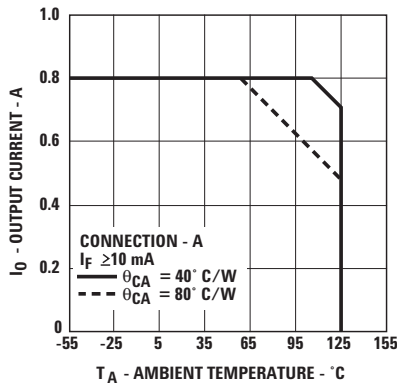
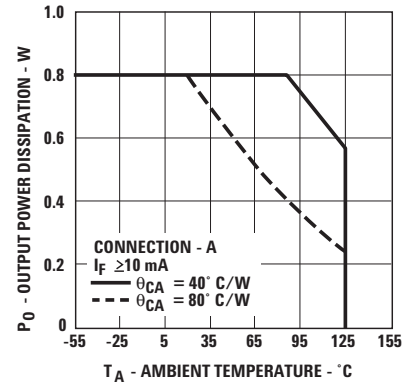

Figure 2. Maximum Average Output Current Rating vs. Ambient Temperature.
Figure 4. Output Power Rating vs. Ambient Temperature.
| Average Output Current - Figure 2Connection AConnection B                                                 | $I_O$                   |          | 0.81.6    | AA |      |
| Average Output Power Dissipation - Figure 4                                                                       |                         |          | 800           | mW     | 2    |
- For rating, see Figure 4. The output power  $P_O$  rating curve is obtained when the part is handling the maximum average output current  $I_O$  as shown in Figure 2.
IN ORDER TO DETERMINE  $V_{OUT}$  CORRECTLY, THE CASE TO AMBIENT THERMAL IMPEDANCE MUST BE MEASURED FOR THE BURN-IN BOARDS TO BE USED. THEN, KNOWING  $\theta_{CA}$ , DETERMINE THE CORRECT OUTPUT CURRENT PER FIGURES 2 AND 4 TO INSURE THAT THE DEVICE MEETS THE DERATING REQUIREMENTS AS SHOWN.
The output on-resistance,  $R_{ON}$ , specified in this data sheet, is the resistance measured across the output contact when a pulsed current signal ( $I_O = 800\text{ mA}$ ) is applied to the output pins. The use of a pulsed signal ( $\leq 30\text{ ms}$ ) implies that each junction temperature is equal to the ambient and case temperatures. The steady-state resistance,  $R_{SS}$ , on the other hand, is the value of the resistance measured across the output contact when a DC current signal is applied to the output pins for a duration sufficient to reach thermal equilibrium.  $R_{SS}$  includes the effects of the temperature rise of each element in the thermal model. Rating curves are shown in Figures 2 and 4. Figure 2 specifies the maximum average output current allowable for a given ambient temperature. Figure 4 specifies the output power dissipation allowable for a given ambient temperature. Above  $55^{\circ}\text{C}$  (for  $\theta_{CA} = 80^{\circ}\text{C/W}$ ) and  $107^{\circ}\text{C}$  (for  $\theta_{CA} = 40^{\circ}\text{C/W/W}$ ), the maximum allowable output current and power dissipation are related by the expression  $R_{SS} = P_{O(max)} / (I_{O(max)})^2$  from which  $R_{SS}$  can be calculated. Staying within the safe area assures that the steady-state junction temperatures remain less than  $150^{\circ}\text{C}$ . As an example, for  $T_A = 95^{\circ}\text{C}$  and  $\theta_{CA} = 80^{\circ}\text{C/W}$ , Figure 2 shows that the output current should be limited to less than  $610\text{ mA}$ . A check with Figure 4 shows that the output power dissipation at  $T_A = 95^{\circ}\text{C}$  and  $I_O = 610\text{ mA}$ , will be limited to less than  $0.35\text{ W}$ . This yields an  $R_{SS}$  of  $0.94\ \Omega$ .